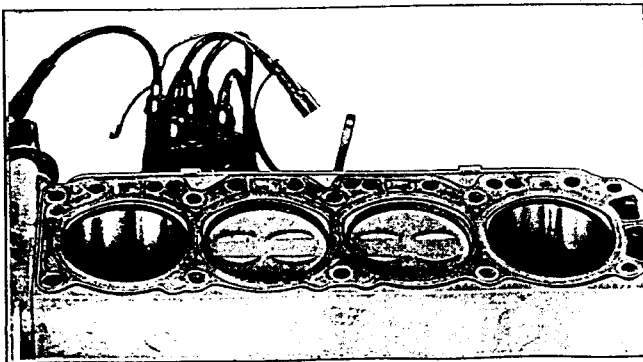

Figure 8-1-17
3. Place a new cylinder head gasket in position over the dowel pins in the cylinder block (see Figure 8-1-17). On engines with a steel gasket coat both sides of a new gasket with a thin, even coat of OMC Gasket